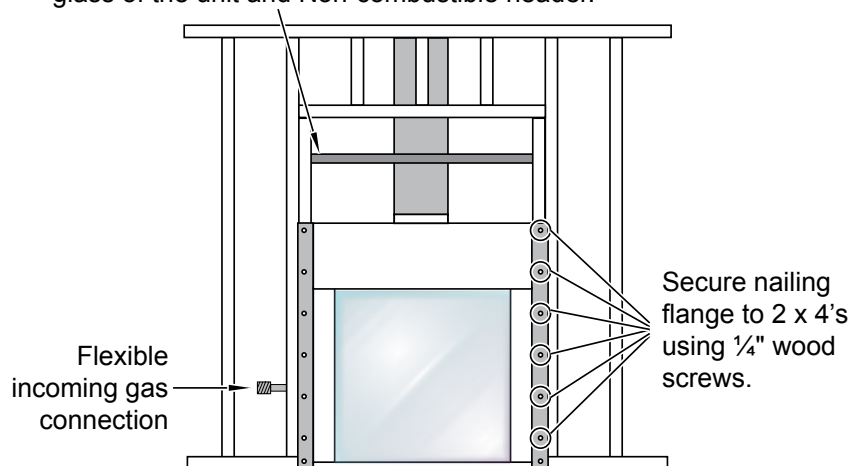
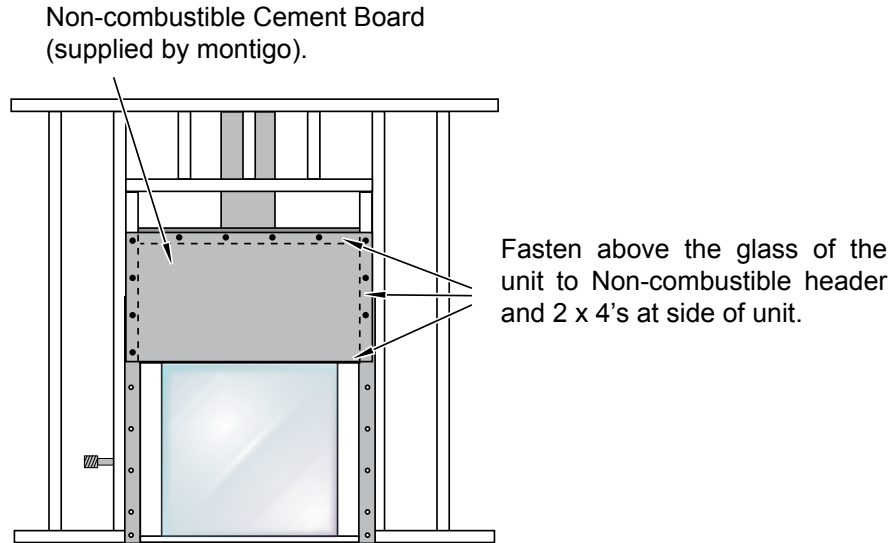

Figure 2a. Fireplace installation, (Inlet Gas & Power Vent) .
Figure 3. Non-combustible Cement Board the Fireplace, (supplied by Montigo).
**Step 1.** As shown in Figure 3; Use Non combustible Cement board, at sides of unit (see figure 2a on page 6) using sheet metal screws, supplied by Montigo, screw to Non-combustible Header and 2 x 4's